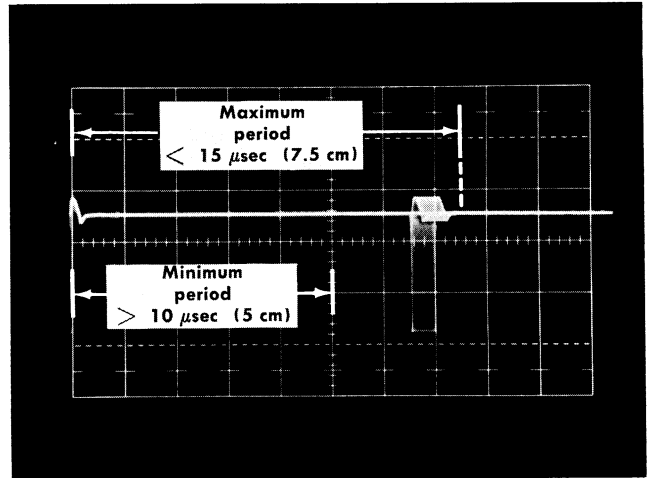

Fig. 5-19. Typical real-time oscillator output with SAMPLING RATE switch at RANDOM.
c. **Check** for a maximum period of 15  $\mu\text{sec}$  or less and a minimum period of 10  $\mu\text{sec}$  or more (see Fig. 5-19).